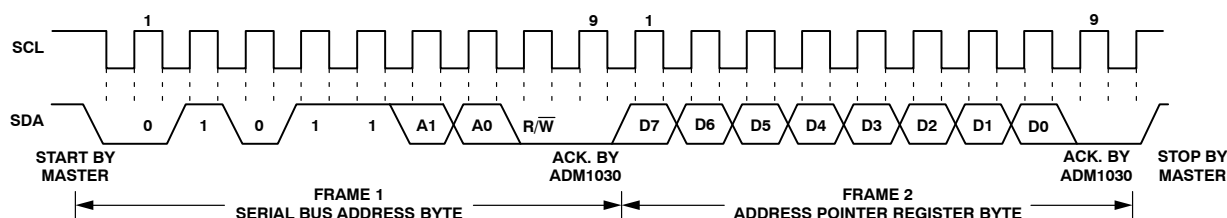
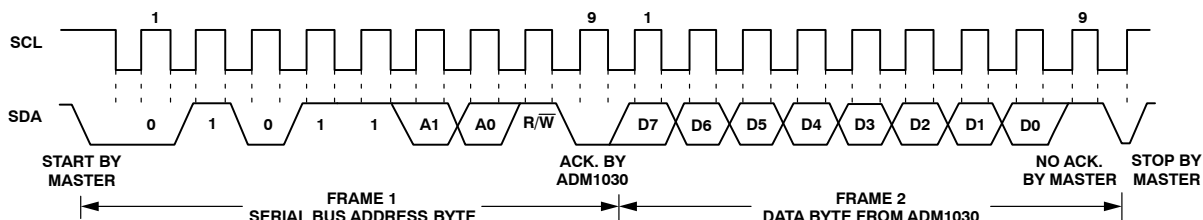

Figure 16. Writing to the Address Pointer Register Only
Figure 17. Reading Data from a Previously Selected Register
- If the ADM1030's Address Pointer Register value is unknown or not the desired value, it is first necessary to set it to the correct value before data can be read from the desired data register. This is done by performing a write to the ADM1030 as before, but only the data byte containing the register address is sent, as data is not to be written to the register. This is shown in Figure 16. A read operation is then performed consisting of the serial bus address, R/W bit set to 1, followed by the data byte read from the data register. This is shown in Figure 17.
- If the Address Pointer Register is known to be already at the desired address, data can be read from the corresponding data register without first writing to the Address Pointer Register, so Figure 16 can be omitted.